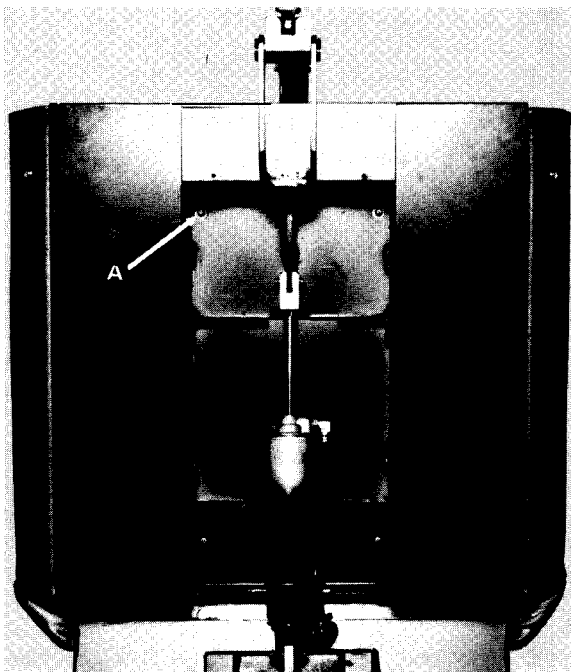

Fig. 4
- 2) Remove the (4) screws located inside the recessed area of the metal back frame. (Item A, Fig. 4).
- 4) Align holes on back section and install (4) 10-24 x 5/8" screws. Item A, Fig. 4.